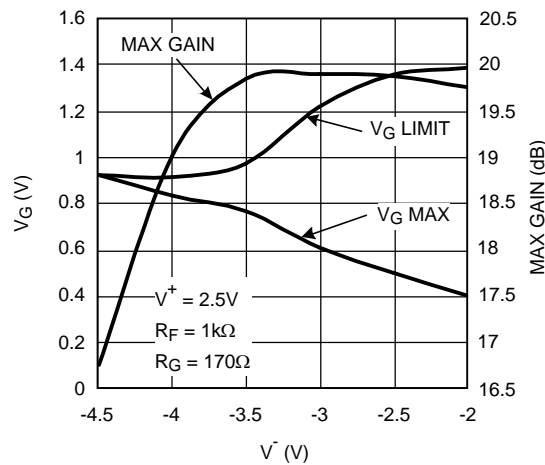
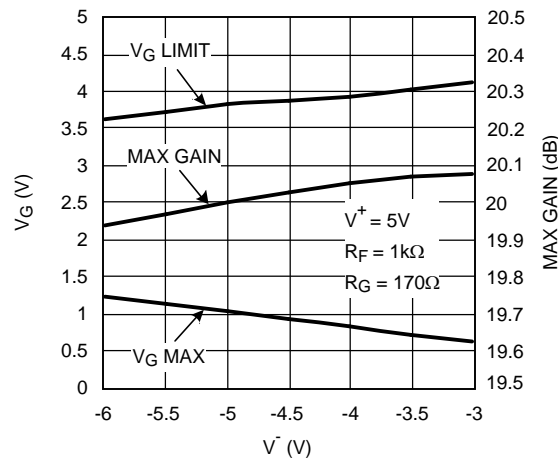

Figure 67. V_{G_MAX} , V_{G_LIMIT} , & Max-gain vs. V^- ($V^+ = 2.5V$)
Figure 68. V_{G_MAX} , V_{G_LIMIT} , & Max-gain vs. V^- ($V^+ = 5V$)
- a) V_G range constricts. Referring to Figure 67, note that V_{G_MAX} (V_G voltage required to get maximum gain) is $0.5V$ ($V_S = \pm 2.5V$) compared to $1.0V$ for $V_S = \pm 5V$. At the same time, gain cut-off (V_{G_MIN}) would shift to $-0.5V$ from $-1V$ with $V_S = \pm 5V$.
- b) V_{G_LIMIT} (maximum permissible voltage on V_G) is reduced. This is due to limitations within the device arising from transistor headroom. Beyond this limit, device performance will be affected (non-destructive). Referring to Figure 67, note that with $V^+ = 2.5V$, and $V^- = -4V$, V_{G_LIMIT} is approaching V_{G_MAX} and already "Max gain" is reduced by 1dB. This means that operating under these conditions has reduced the maximum permissible voltage on V_G to a level below what is needed to get Max gain. If supply voltages are asymmetrical, reference Figure 67 and Figure 68 plots to make sure the region of operation is not overly restricted by the "pinching" of V_{G_LIMIT} , and V_{G_MAX} curves.
- c) "Max_gain" reduces. There is an intrinsic reduction in max gain when the total supply voltage is reduced (see Figure 43). In addition, there is the more drastic mechanism described in "b" above and shown in Figure 67.
Similar plots for $V^+ = 5V$ operation are shown in Figure 68 for comparison and reference.